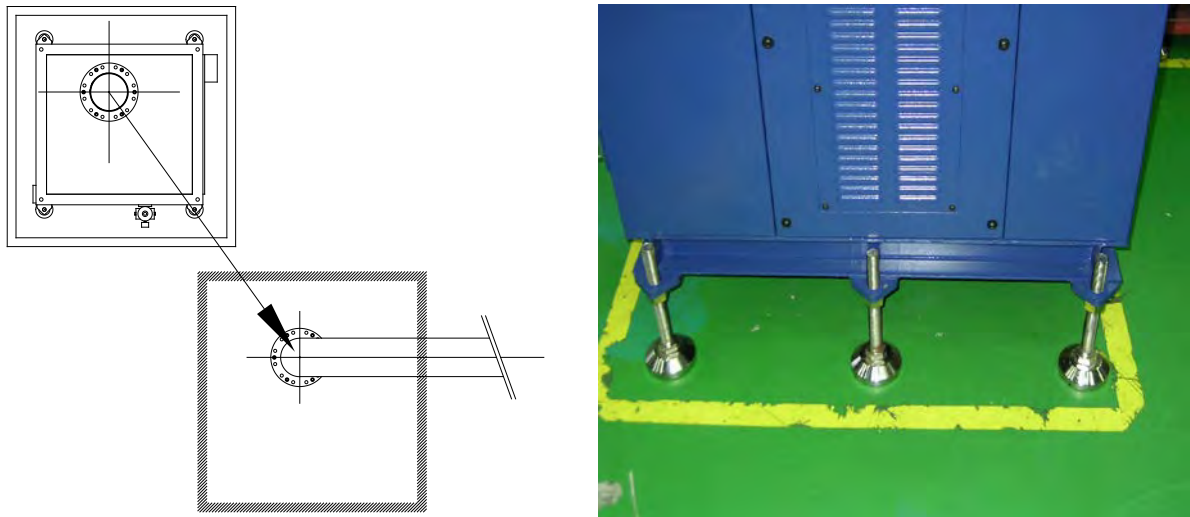

Figure 4-5. Aligning the Blower and Marking the Position
4.5.1. Line up the centerline of the discharge piping with the centerline of the blower discharge on the enclosure as shown in Figure 4-5. Verify that the height shown on the drawing agrees with the actual measured height at installation.